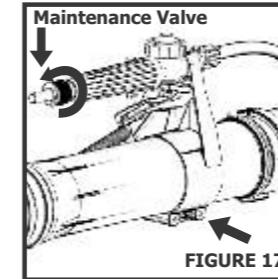
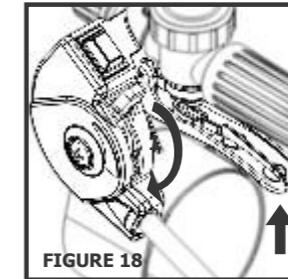

FIGURE 17
FIGURE 18
a) Place the machine on your back, with the engine running at idle, adjust strap length for the best comfort and a safe operation. Use a Phillips screwdriver, supplied in the Service Kit, to adjust the joystick position to match the operators' arm length(Figure 17);
b) Engine acceleration: push the red throttle lever all the way down as shown by the arrow in Figure 18;
c) Opening the flow of liquid: press the discharge valve lever (figure18) all the way, making sure that the maintenance valve located on the valve handle (Figure 17) is set to “Max” (Maximum), and start spraying.